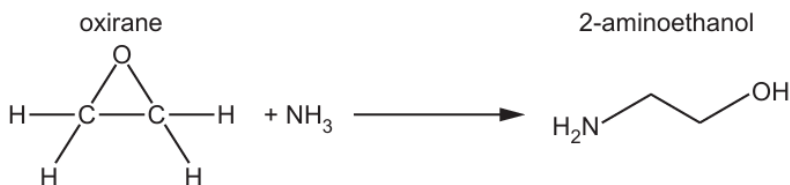
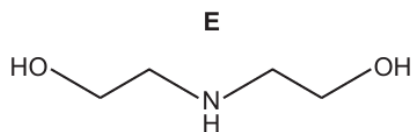

Fig. 2.2
Fig. 2.4
A synthesis of 2-aminoethanol is shown in Fig. 2.2.
- (ii) A small amount of by-product **E**, shown in Fig. 2.4, is produced during the reaction shown in Fig. 2.2.